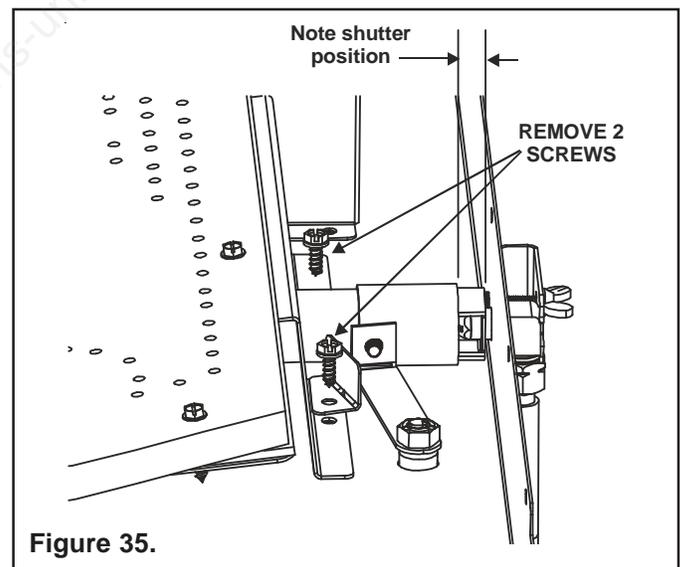

Figure 35.
Note the position of the shutter and shutter stop bracket (Figure 35). This will need to be re-set after replacing the burner.
Remove the burner from the fireplace as shown in Figure 35. Remove the burner assembly by first removing the screws (2) that secure it behind the burner surface. Slide the adjustable shutter towards the rear of the fireplace (closed position). Lift the burner up and towards you to remove.